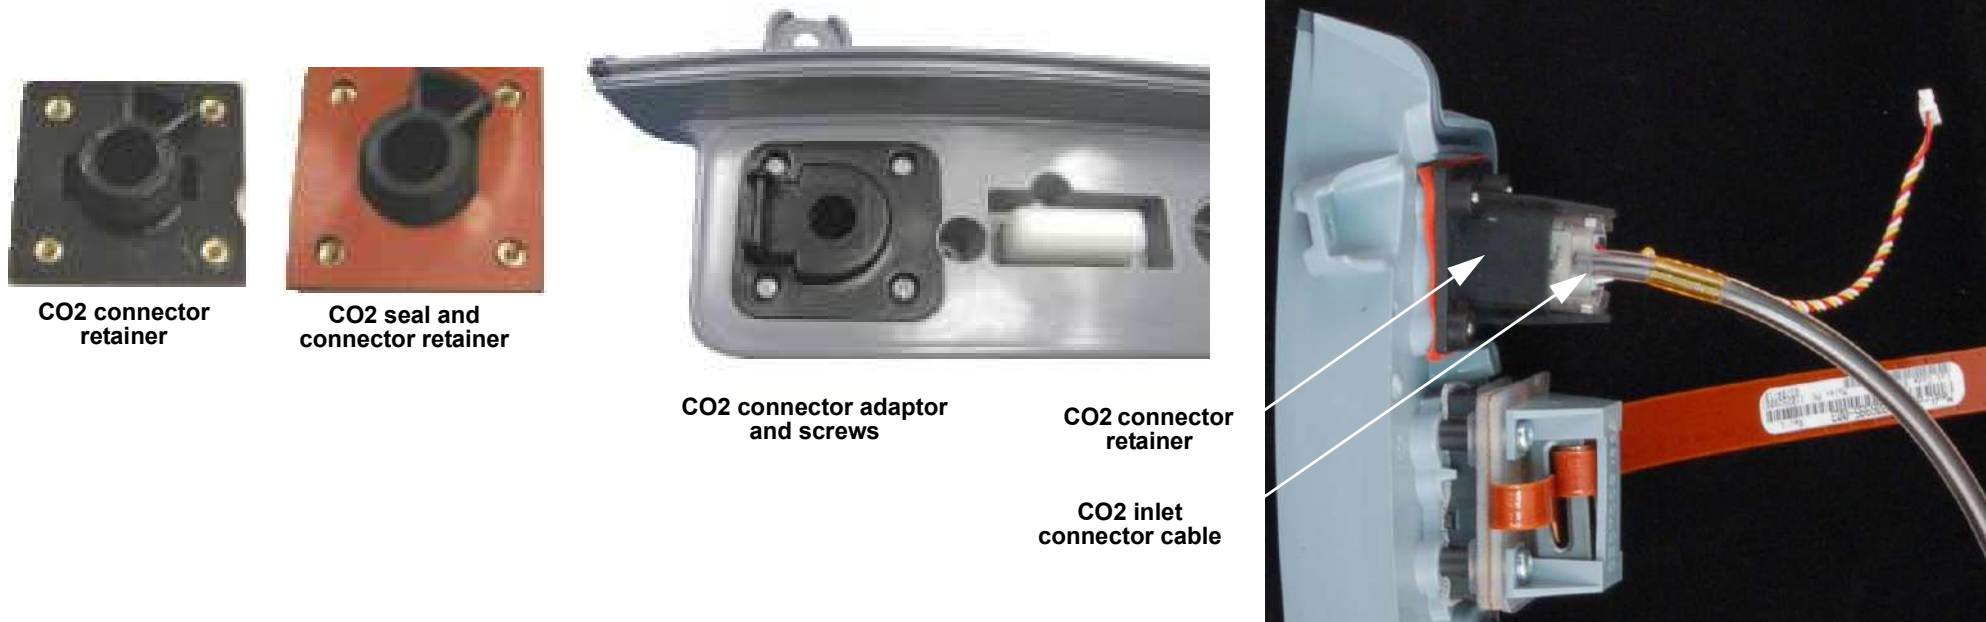

Figure 10.118—CO2 connector parts
6. Disengage the CO2 inlet connector cable from the CO2 connector retainer by spreading the arms of the retainer and sliding out the CO2 inlet connector body (see Figure 10.118 on p. 470). Discard the connector retainer clip.